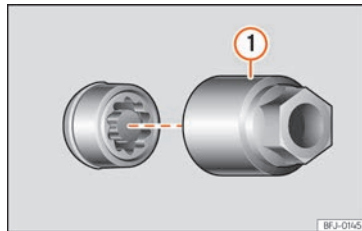

Fig. 42 Anti-theft wheel bolt with cap and adapter.
- Insert the special adapter » **Fig. 42 ①** (vehicle tools » page 45) onto the anti-theft wheel bolt and push it on as far as it will go.